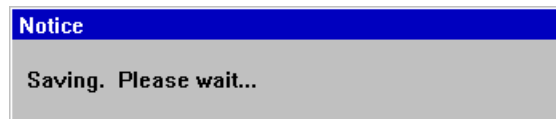

Figure 39: Message: Saving Please wait...
**Note:** Whenever the system saves an Event (Automatic or User placed), the system will display a Notice message (refer to Figure 39 below). During the time the message is being displayed, turning the rotary knob will not move the highlighted selection.